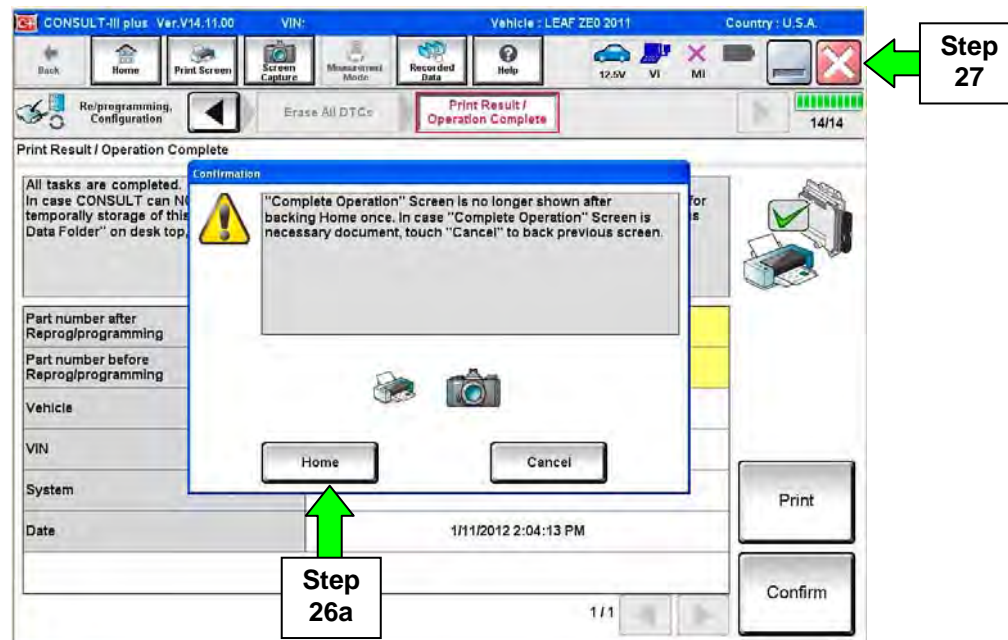

Figure 23
27. Close C-III plus (see previous page, Figure 23).